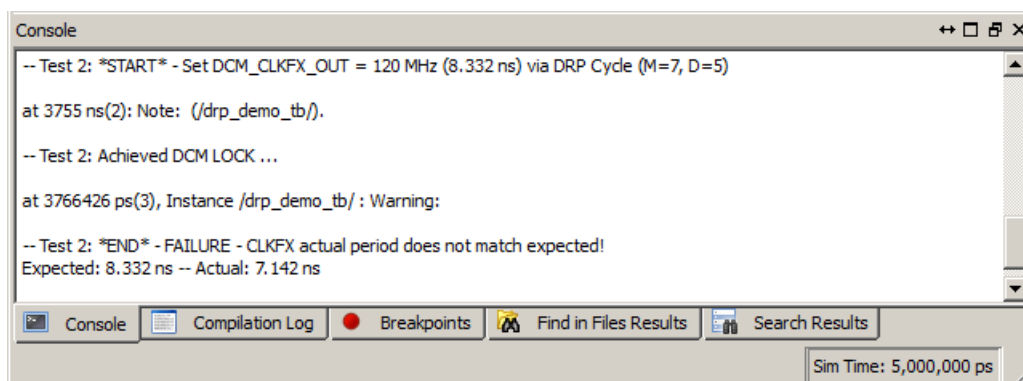

Figure 3-12: Console Panel
3. Review the Console panel for messages from the test bench (see Figure 3-12).